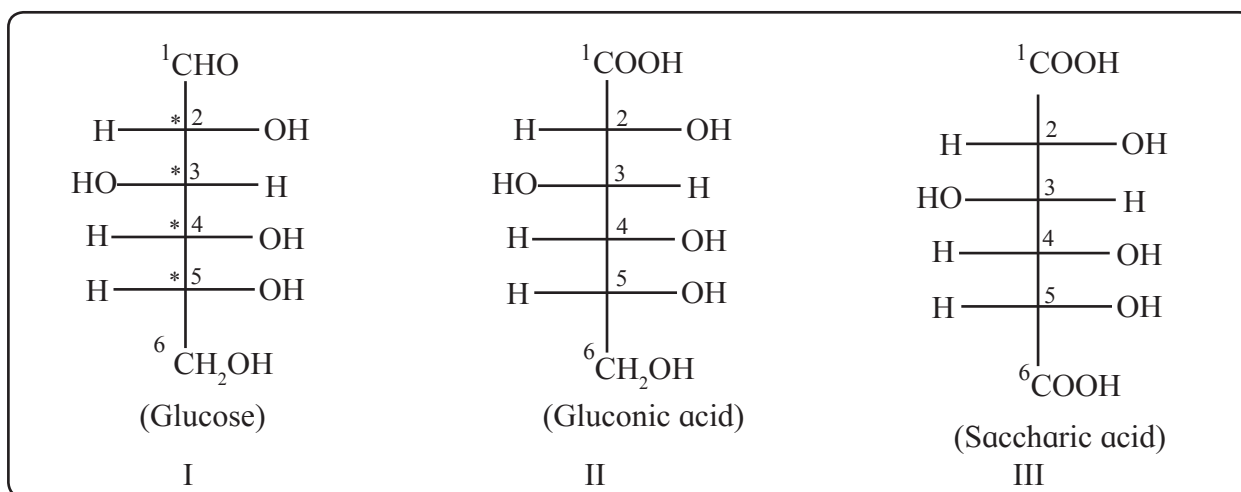

Fig 14.2 : Fischer projection formulae of glucose, gluconic acid and saccharic acid
Figure 14.2 shows the Fisher projection formulae of glucose (I), gluconic acid (II) and saccharic acid (III).
14.2.6 Ring structure of glucose : On the basis of chemical evidence stereostructure of D-glucose was represented by the Fischer projection formula **I** (Fig. 14.2 and Fig. 14.4). Glucose, however, was found to exhibit some more chemical properties which could not be explained on the basis of the structure **I**. It was necessary to write another structure for glucose which will explain all the properties. Ring structure of glucose fulfils this requirement.